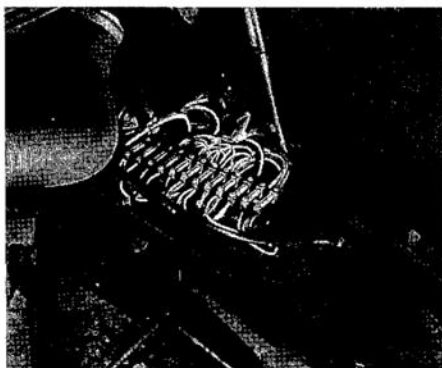

Fig. 24
switch with the wiper motor (see Figs. 24, 25, and 26). This procedure requires the removal of both seats, floor mats, floorboards, and the tunnel rear cover.
13. Connect ground wire to ground terminal screw. Connect red wire (without snap-on connector) of wire loom to Fuse 4 in the fuse box (see Fig. 24),